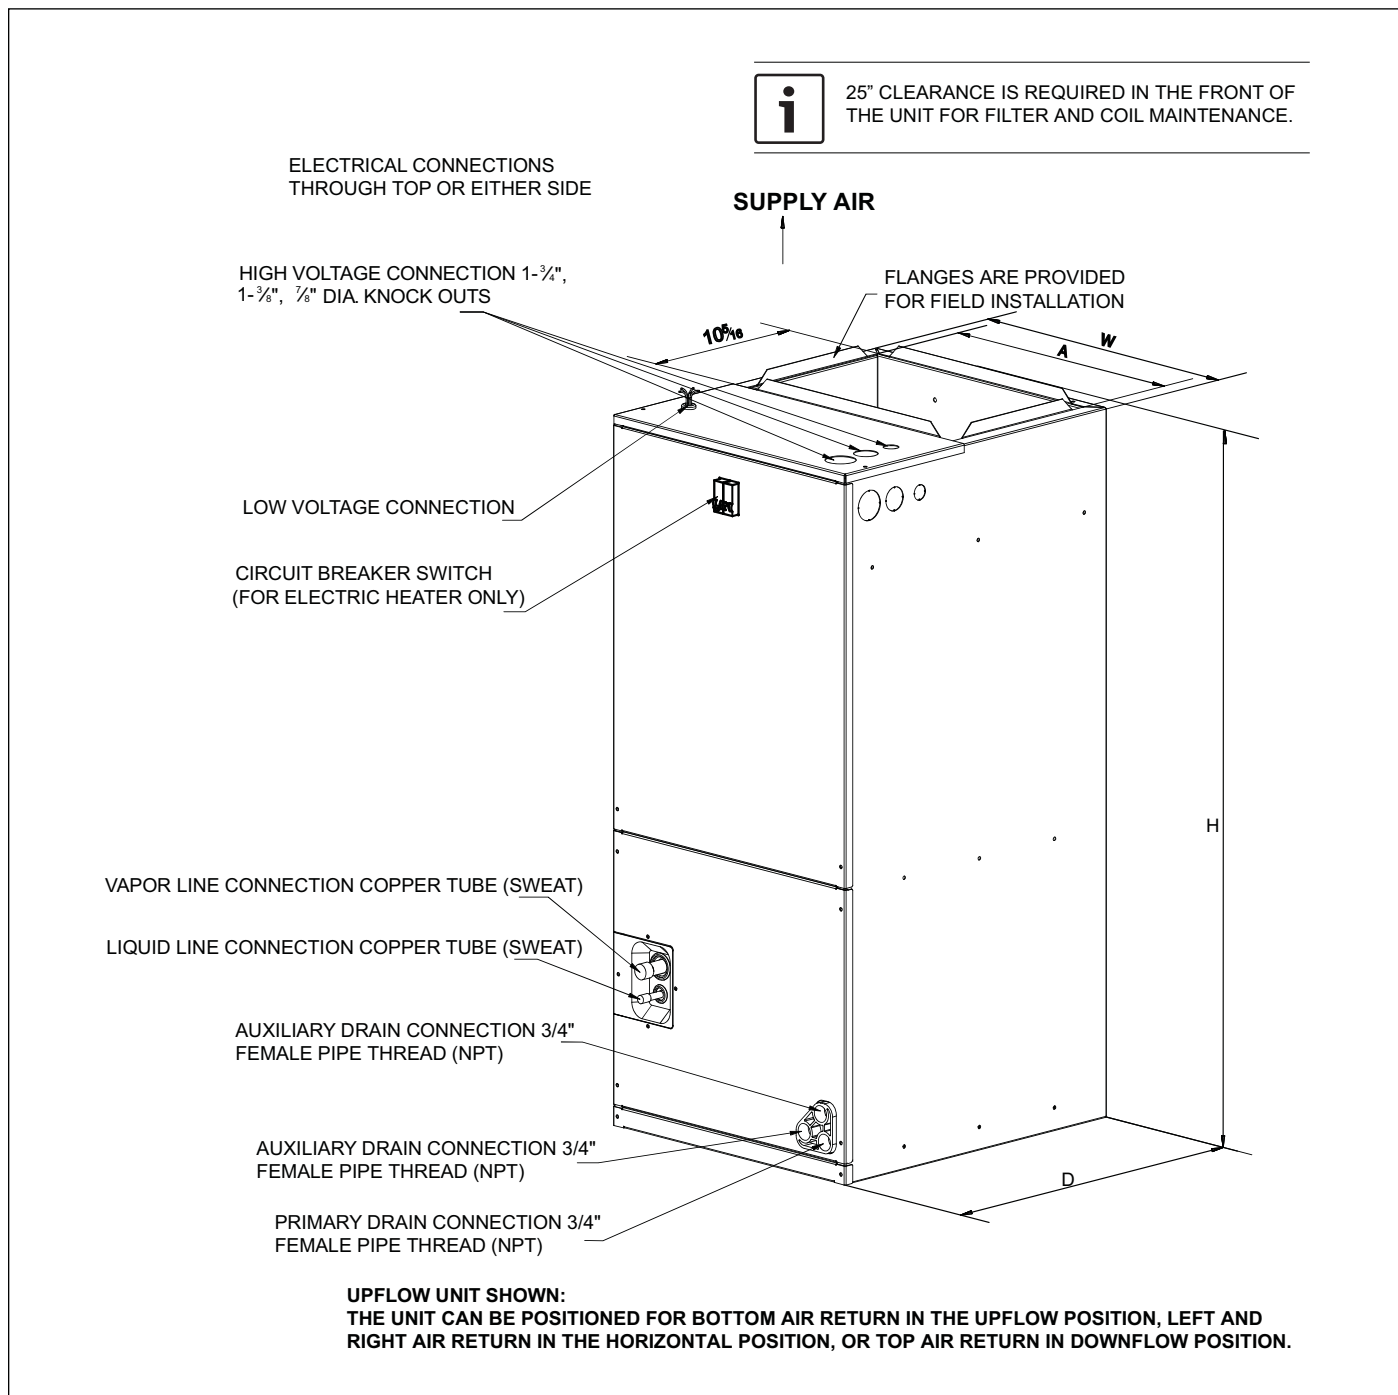

Figure 8
Please refer to Figure 8 for high and low voltage wiring connections.
- ▶ Vertical Upflow configuration is the factory default on all models (see Figure 8).
- ▶ For low voltage wire connection location, see Figure 8.